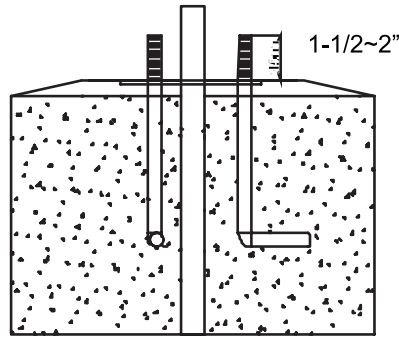

Fig4
3. Install three anchor bolts into concrete as per Fig4 having at least 1-1/2~2" protruding from concrete with threads free and clear of debris and dirt.